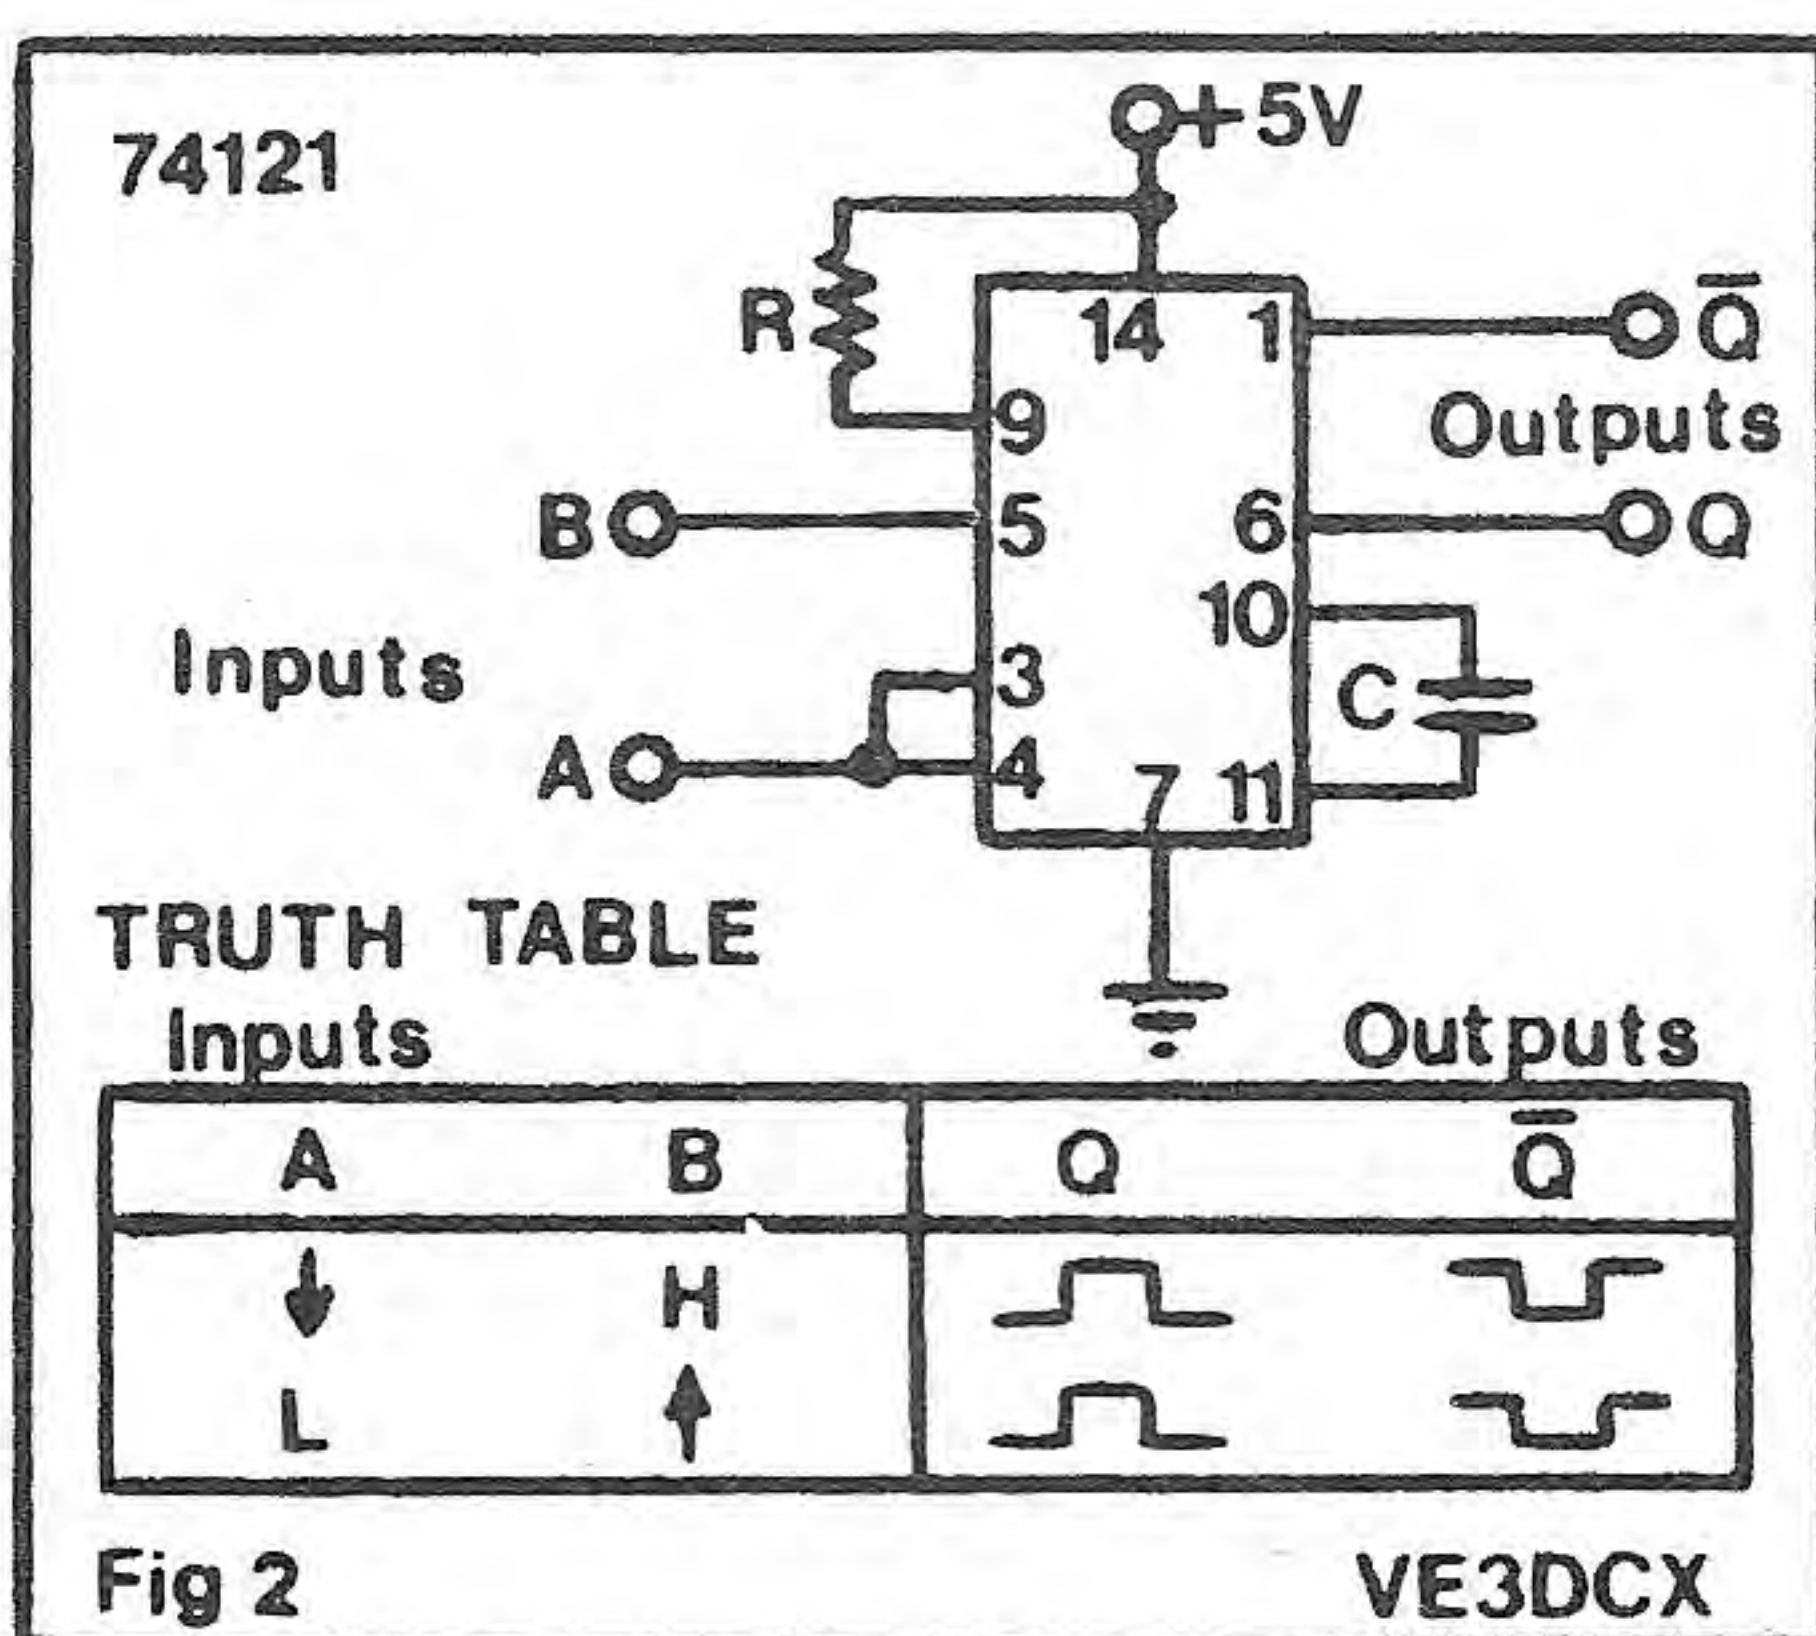

Fig 2
F) Remove this plug and use a fine point such as a bent paper clip to remove the brown and red wires. This is done by pressing down lightly on the exposed clip to allow the metal plug to slide out. (see figure 2)